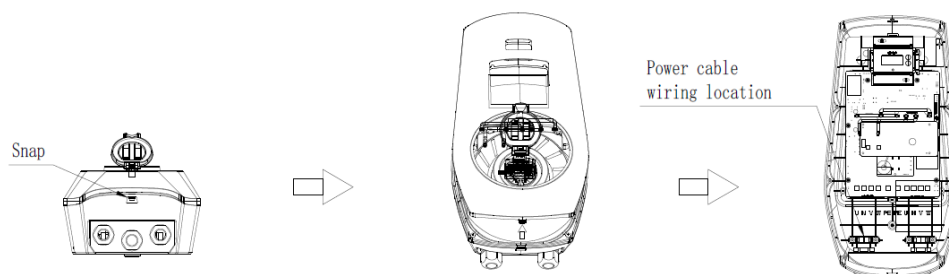

Figure 2- Wiring diagram
2. According to the arrow direction in Figure 2, break open the upper cover upwards.